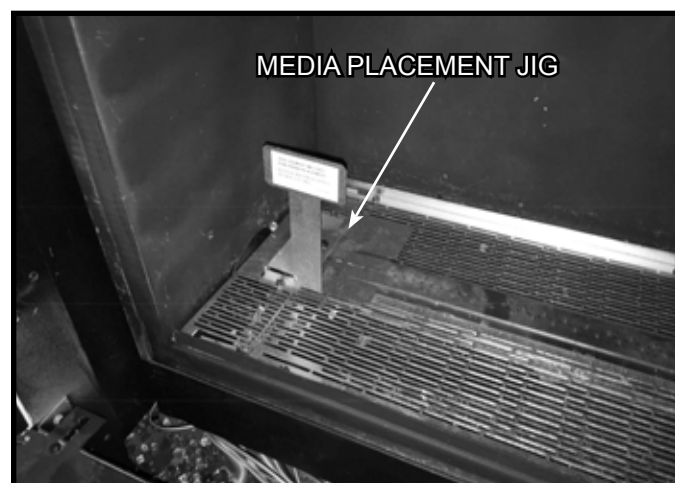

Figure 1. Media Placement Jig Location
2. The media placement jig, shown in Figure 1, **MUST** be used any time media are placed on the burner to ensure that there is no media in the burner lighting area. Verify that the media placement jig is correctly installed in place in the appliance. See Figure 1.